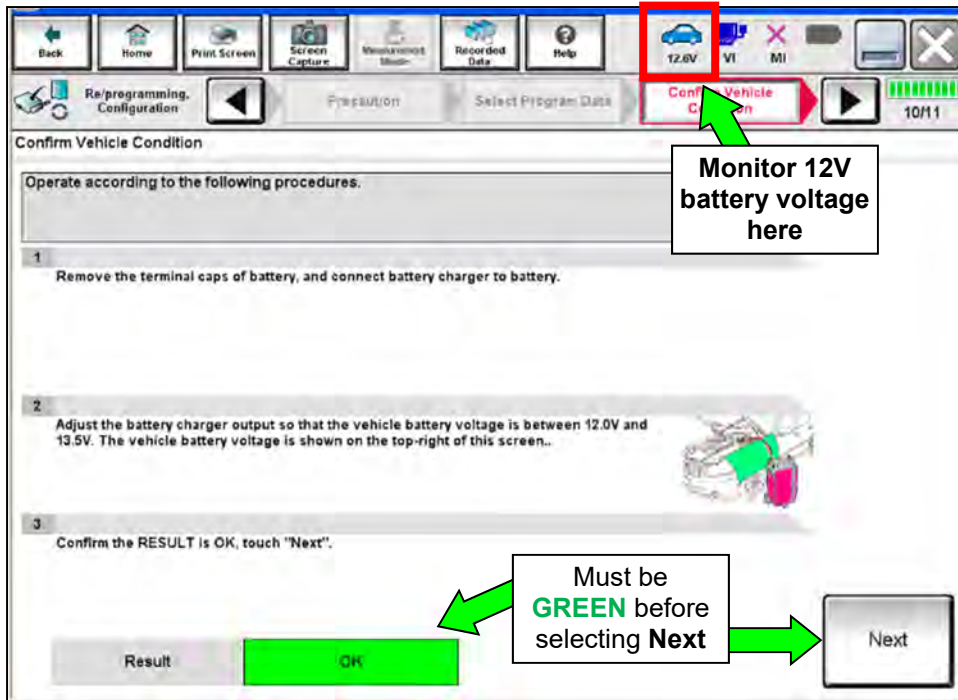

Figure 14
- If no **Saved Data List** is stored, Figure 14 will be displayed. Proceed to step 25.